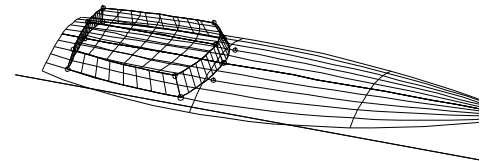

Fig. 18
**8 Drag 'r0' aft** along the centerline, to just ahead of the red deck beam (Fig. 18).